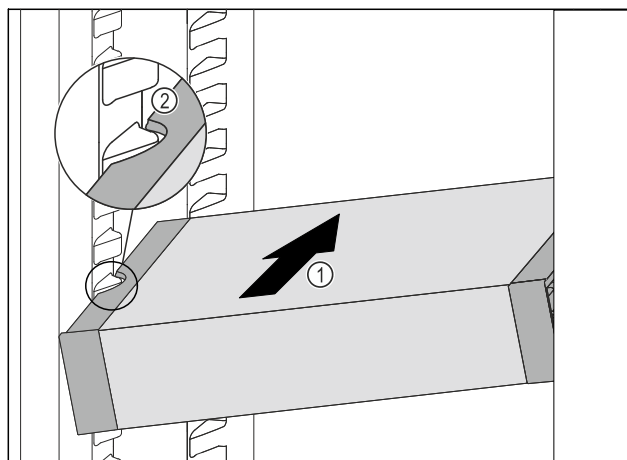

Fig. 197
- Insert the VarioSafe into the fridge section at an angle Fig. 197 (1) until the recesses in the side Fig. 197 (2) of the VarioSafe are at the level of the support rib in the fridge section.